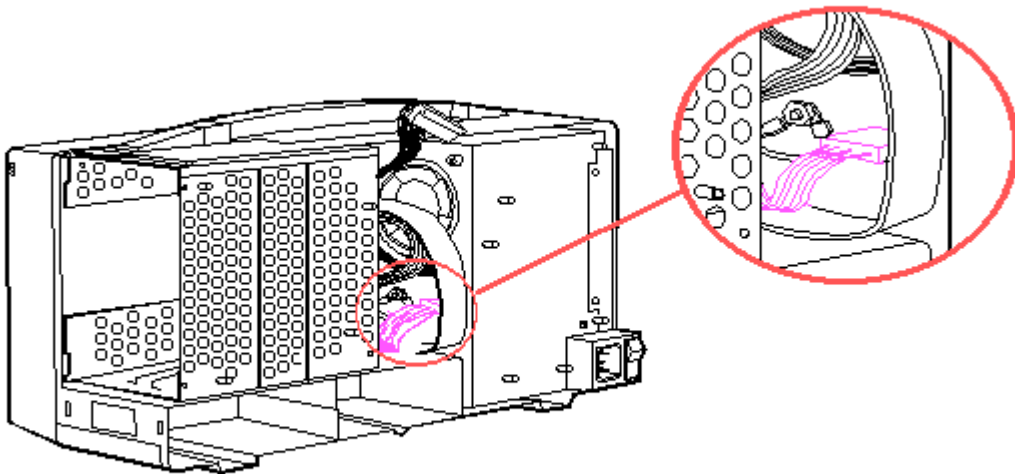

Figure 8-88. Display Cables Location
8. Locate the display power cable assembly and the display data cable assembly shown in Figure 8-88.